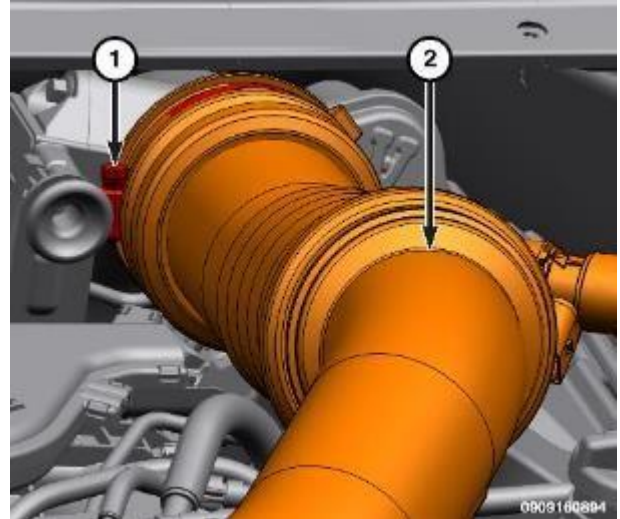

Figure 5 – Clean Air Hose
11. Loosen clamp (1) and remove the clean air hose (2) (Figure 5).